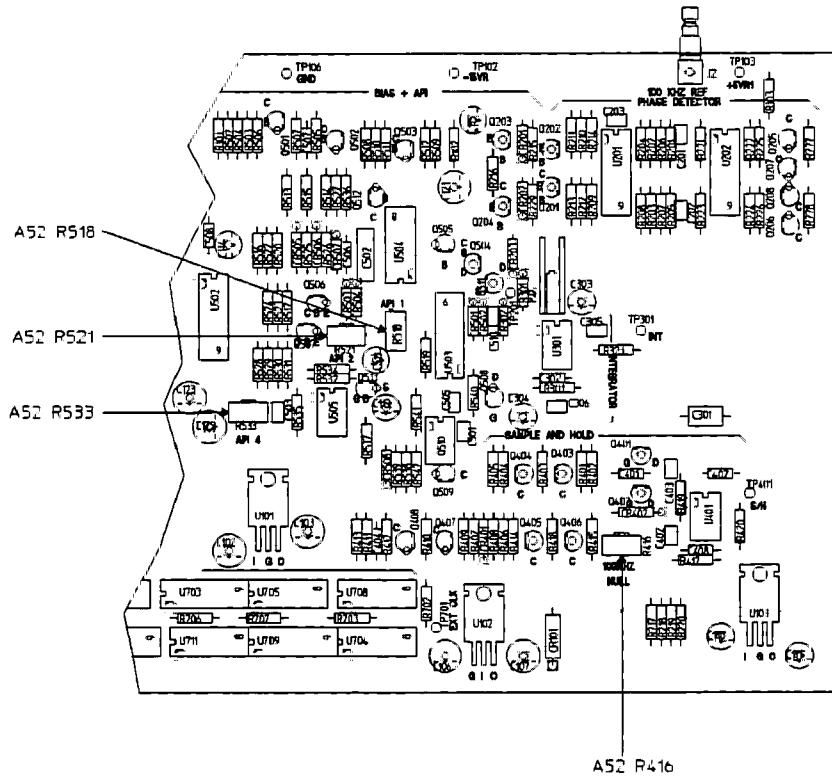
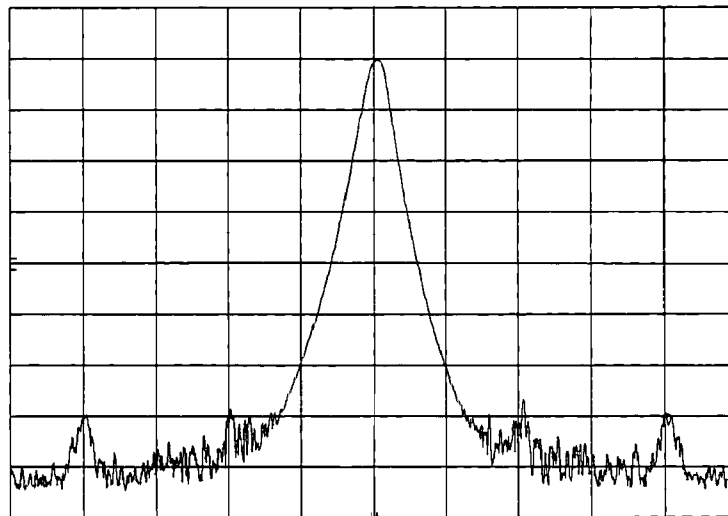

Figure 5-3. A52 Fractional-N Component Locator
Figure 5-4. Spurs Out of Adjustment
5. Set the power switch to ON (I), then press the following keys:
- 6. Adjust A52 R416 (see figure 5-3) for a minimum spur level at approximately 400.2 MHz (figure 5-4 shows the spurs out of adjustment).